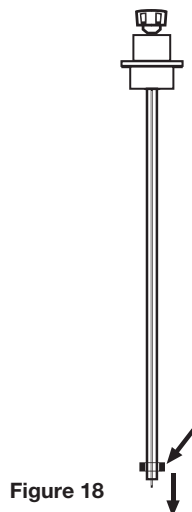

Figure 18
8. Grasp pump housing stability wing and pull straight down removing it from the inner tube assembly (see Figure 18).